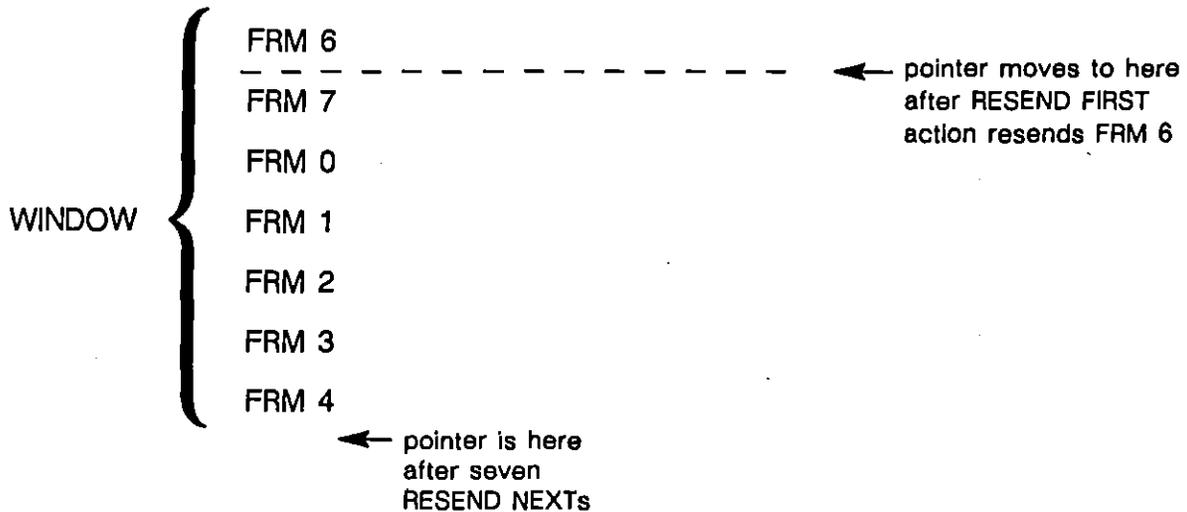

Figure 42-29 *RESEND FIRST* resets the pointer, allowing you to resend the entire window repeatedly.
1. *Resend first/next.* RESEND FIRST means that the resend-pointer is reset to the beginning of the window, the first frame in the window is resent, and the pointer is advanced to the second position in the window. The effect of a RESEND FIRST action is illustrated in Figure 42-29.